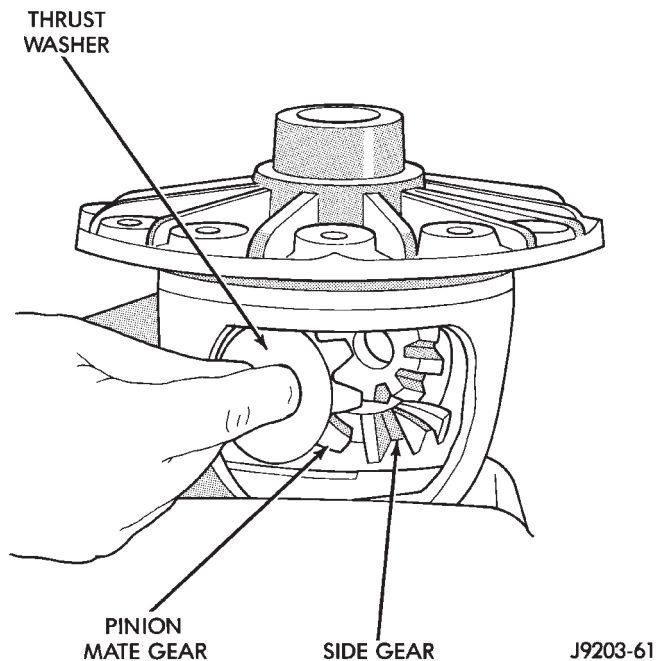

Fig. 43 Pinion Mate Gear Removal
(2) Remove pinion gear mate shaft.
(3) Rotate the differential side gears and remove the pinion mate gears and thrust washers (Fig. 43).